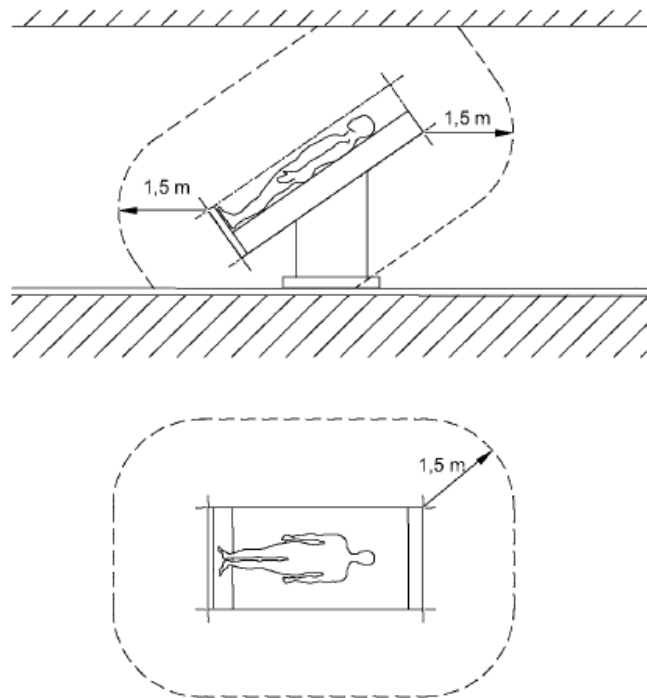

Fig. 1 Minimum extent of the PATIENT ENVIRONMENT
- Open the side covers of the service head ① by removing the M4x16 socket head cap screws ④ at the top and bottom. The side cover can now be opened as shown in figure 1, revealing the inside of the service head.